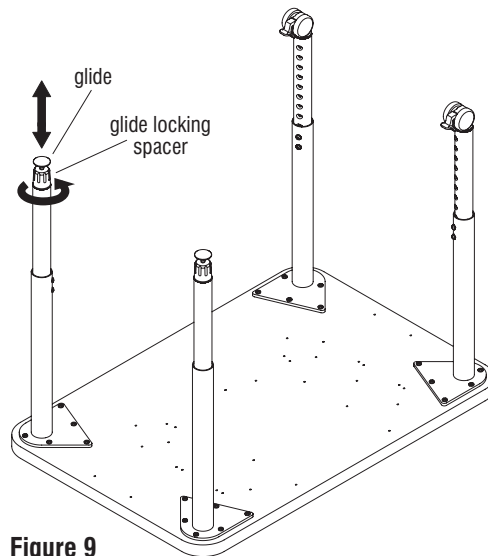
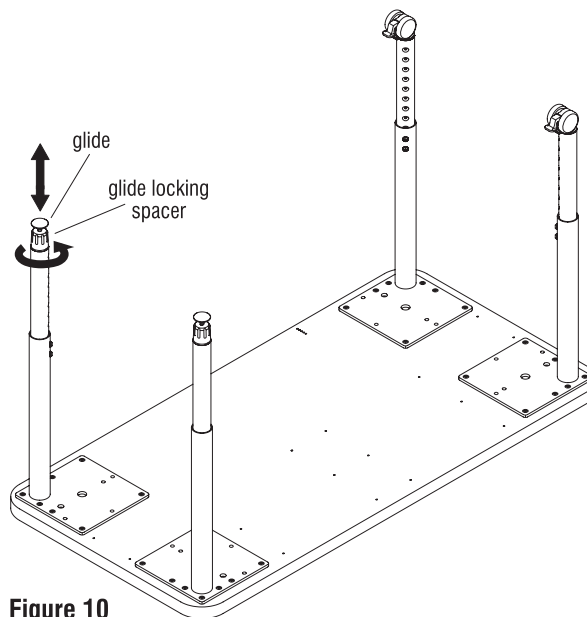

Figure 9
Figure 10
**Note:** Each table includes either all casters, all glides, or a caster and glide mix that includes casters for two legs and glides for the remaining. Figure 9 illustrates casters and glides on a 24 x 36" rectangular post-leg desk and Figure 10 illustrates casters and glides on a 24 x 48" rectangular post leg activity table. Your tabletop shape and leg configuration may vary.